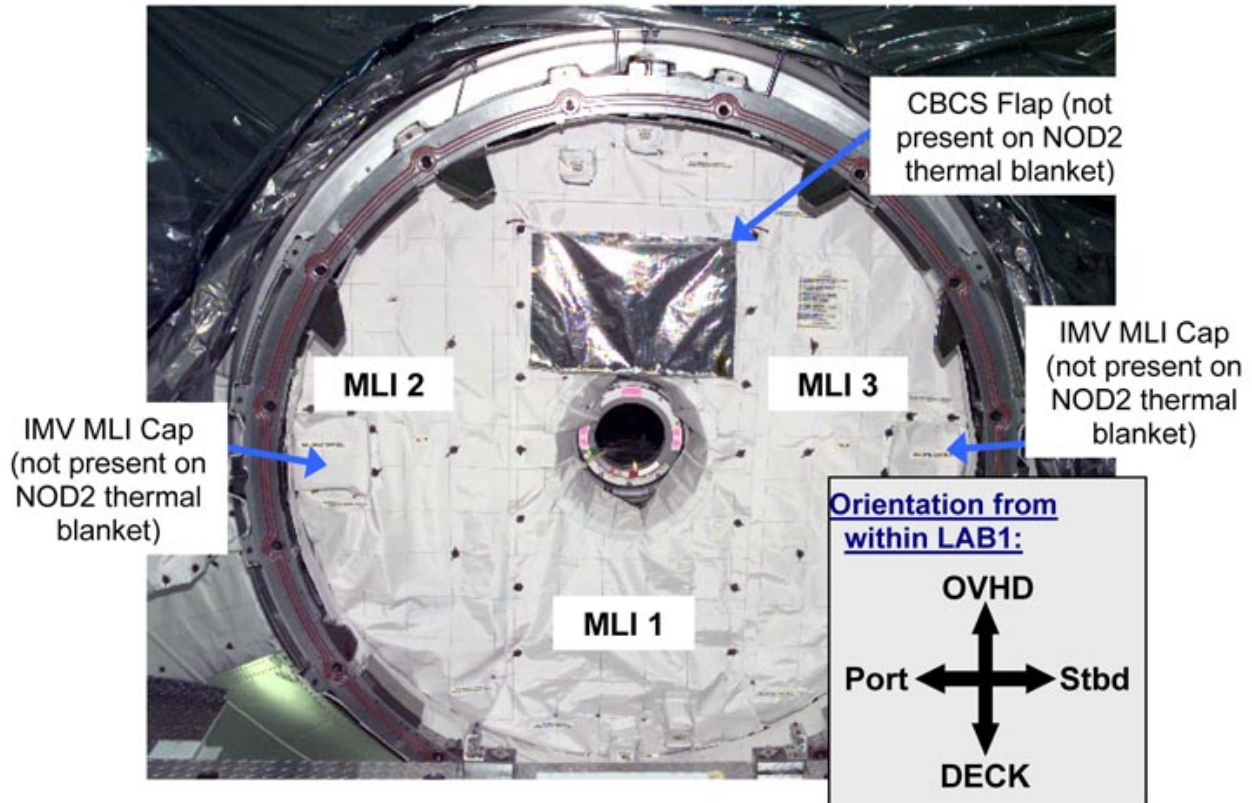

Figure 1. MPLM Thermal Blanket Installed on MPLM Bulkhead and Hatch. NOD2 Thermal blanket is similar, but does not have a CBCS flap or IMV MLI caps.
- 3.1 Gently pull back edges of MLI to expose ground connectors (six) on NOD2 bulkhead. Refer to Figures 1 to 5.
Refer to Figures 1 to 5.